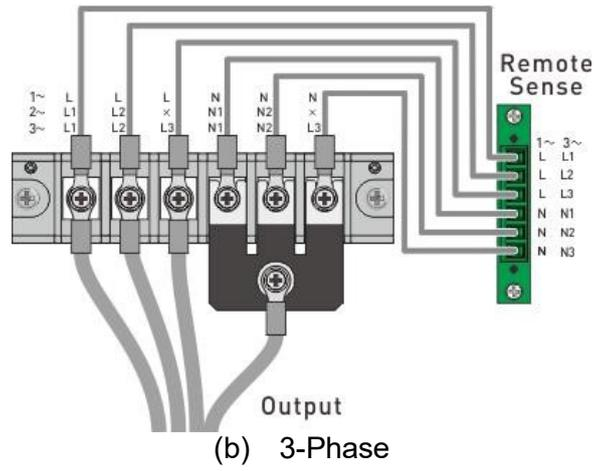

Figure 2-2 Connecting Output and Local Voltage Sense
The output terminal socket is located at the rear side of Regenerative Grid Simulator. The load is connected to the output terminal. For safety, the AC input/output cable must be secured with an appropriate tool and the casing has to be tightened up securely. The cable diameter connected to the load has to be large enough so that it will not over heat if the output is over current, see Figure 2-2.
2. This Regenerative Grid Simulator can output 1-/3-phase. When set to 1-phase mode, the short circuit copper bar must be used to short-circuit the L1/L2/L3 output. The UUT L/N points are connected to the L1/L2/L3 and GROUND short circuit copper bar respectively as shown in Figure 2-2.